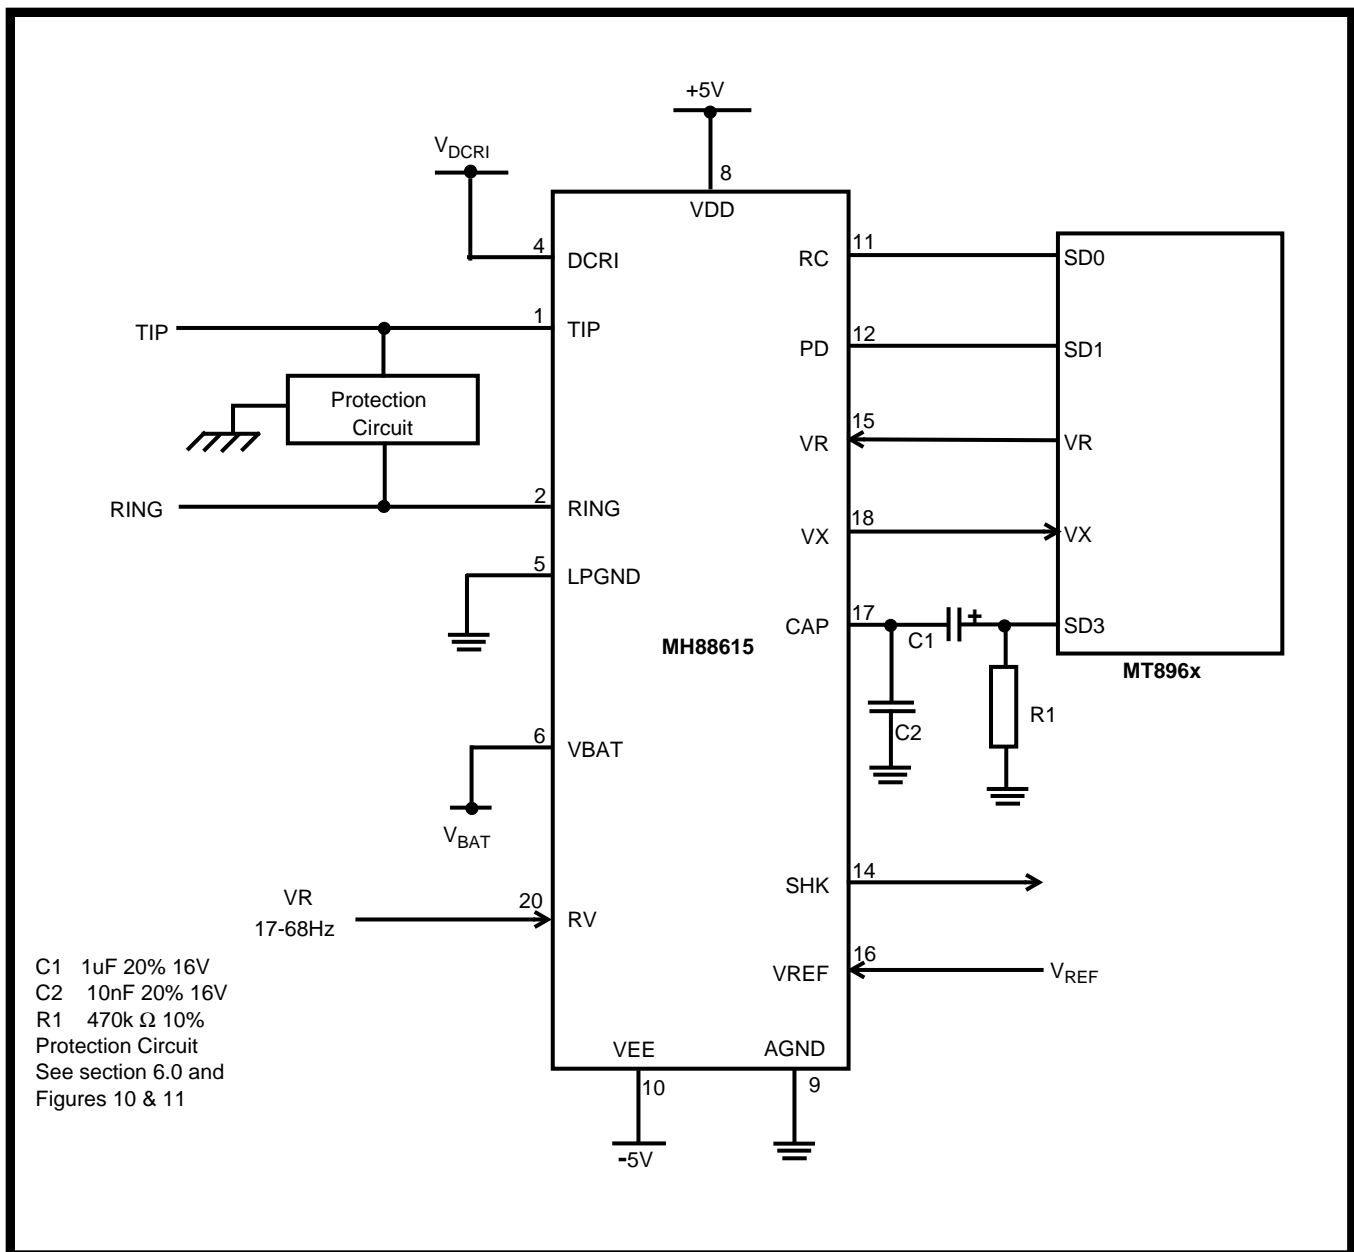
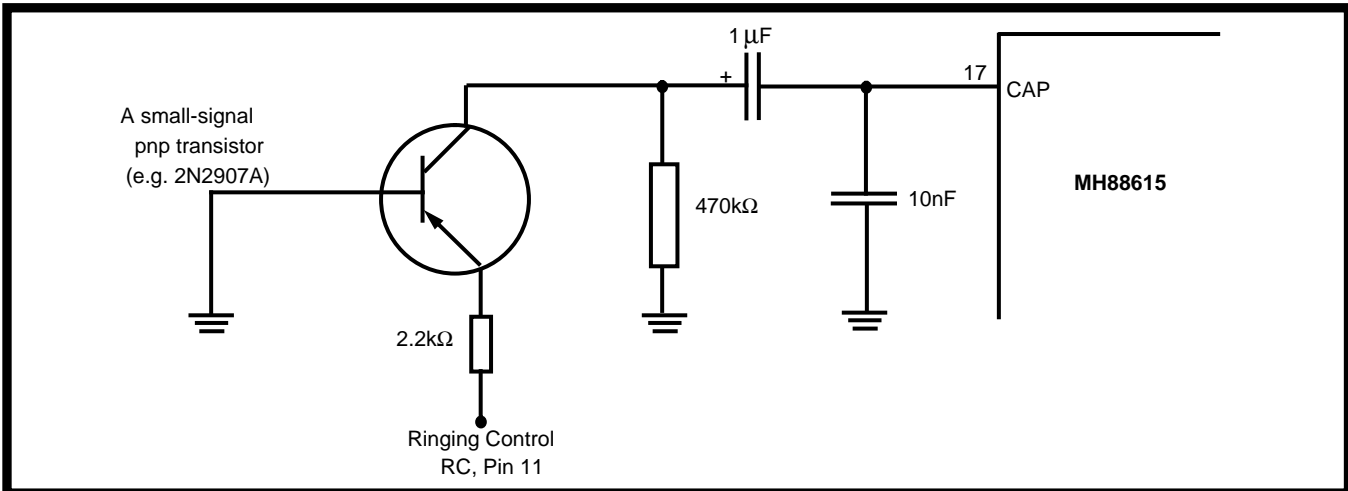

Figure 1 - Basic Application Circuit
Figure 4 - Ringing Filter Circuit
Typical applications include Pair-Gain systems, Internet Surfboards, Terminal Adapters and Multiplexers. A basic application is shown in Figure 1.
during ringing and must be switched out during pulse dialling if dial pulse detection is required. This may be achieved using either a transistor (see Figure 4), relay or sense drive output of a CODEC (see Figure 1). If only DTMF signaling is required, the capacitor may be left permanently connected.
6. This design can be implemented using the schematic of a Basic Application Circuit shown in Figure 1.